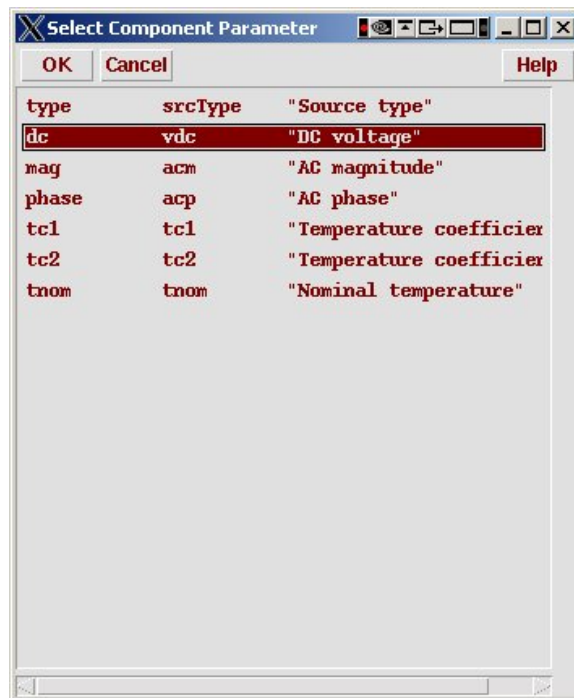
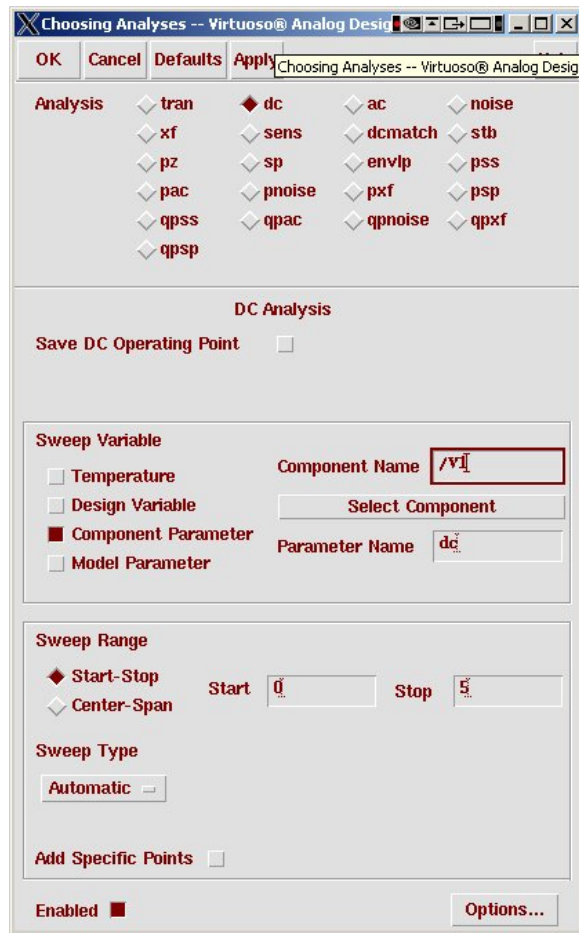

Figure 6.30: Component parameter selection dialog box for DC analysis
Figure 6.31: DC analysis dialog box
5. When you select (click on) the **vdc** connected to the transistor drain, you get another box (Figure 6.30) that asks you to select the component parameter that you want to sweep. We want to sweep the **dc voltage**. Click on that and then OK. You'll see that the component name (**V1** in my circuit) and the parameter name (**dc**) have been added to the **Choosing Analysis** dialog box which now looks like that in Figure 6.31.